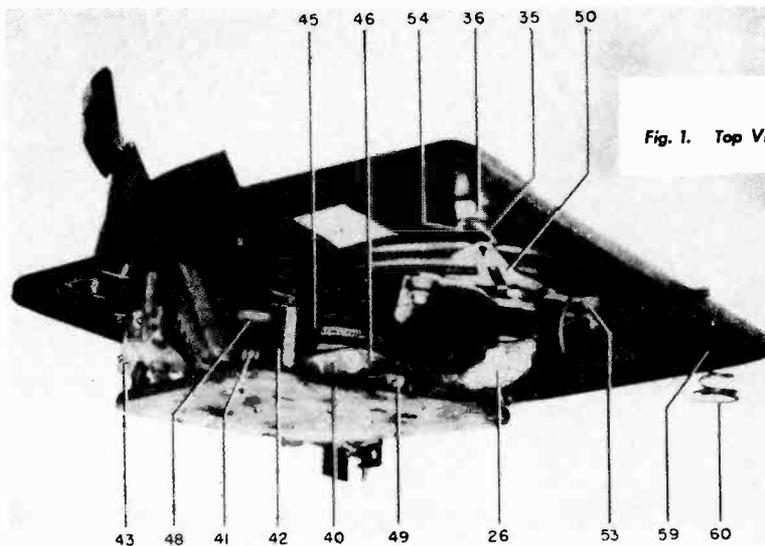

Fig. 1. Top View of Record Changer
3. Ball bearing assembly (8). See Figure 1.